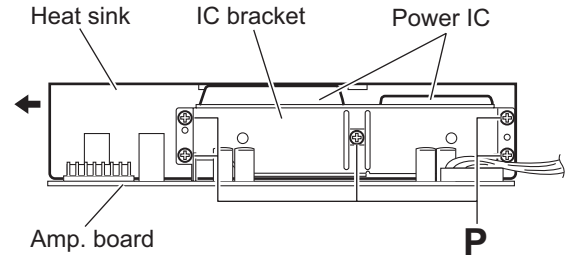

Fig.13
(See Figs. 13 and 14)
- From the front side of the amp. board, remove the five screws **P** attaching the IC bracket and take out the IC bracket. (See Fig.13)
- Move the heat sink in the direction of the arrow to release the three claws **d** and remove the heat sink. (See Figs.13 and 14)